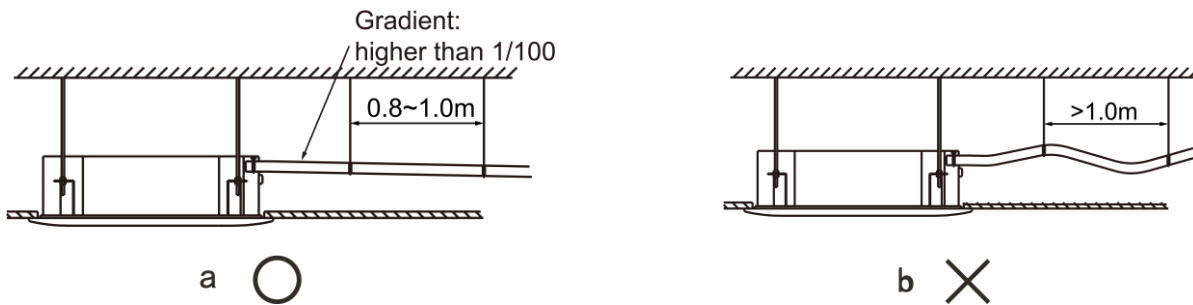

fig. 12.11
- Prevent from water backflow into unit inside during shutdown, the drain pipe shall place down side and drain water to outdoor (drain side), the gradient of the drain pipe should be higher than (1/100), without salient and water remain.(Refer to fig.12.11 a)
- When connecting drainpipe, don't drag the pipe that would pull the main unit. For this, please arrange bearing points every 0.8 to 1.0 meter to avoid pipe be bended (See fig.12.11 b).